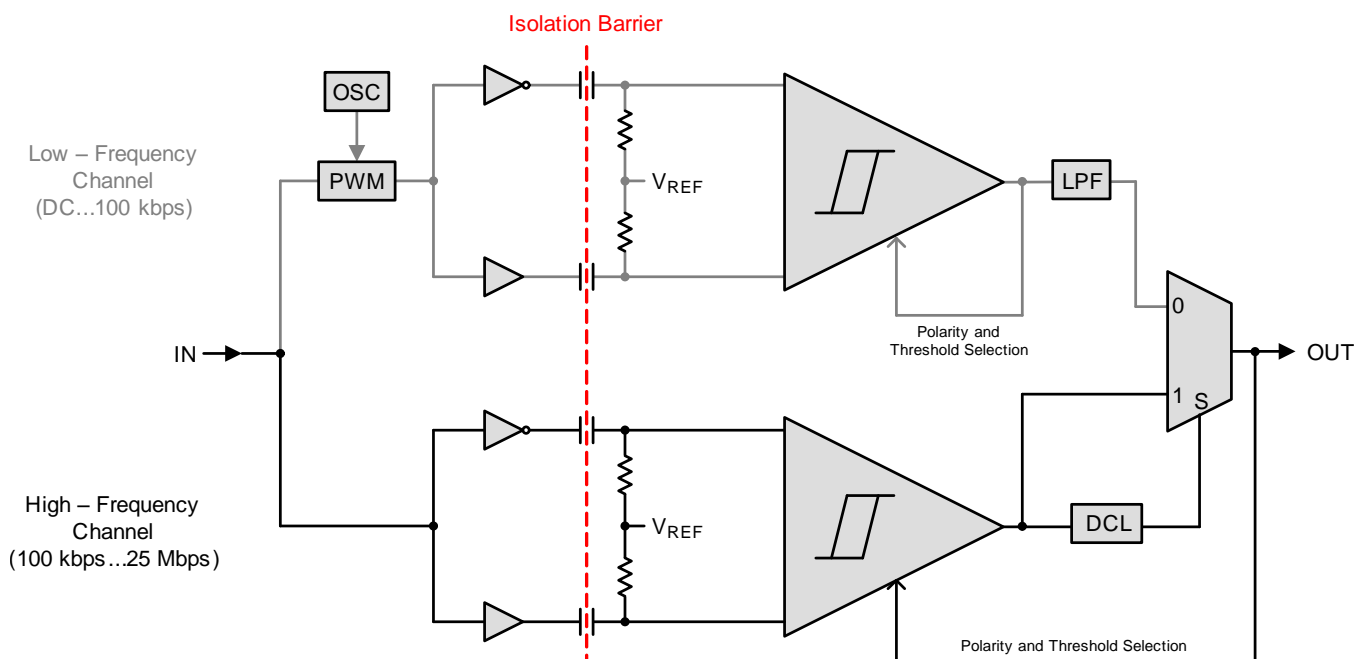

Figure 15. Conceptual Block Diagram of a Digital Capacitive Isolator
The isolator in Figure 15 is based on a capacitive isolation barrier technique. The I/O channel of the device consists of two internal data channels, a high-frequency (HF) channel with a bandwidth from 100 kbps up to 25 Mbps, and a low-frequency (LF) channel covering the range from 100 kbps down to DC.